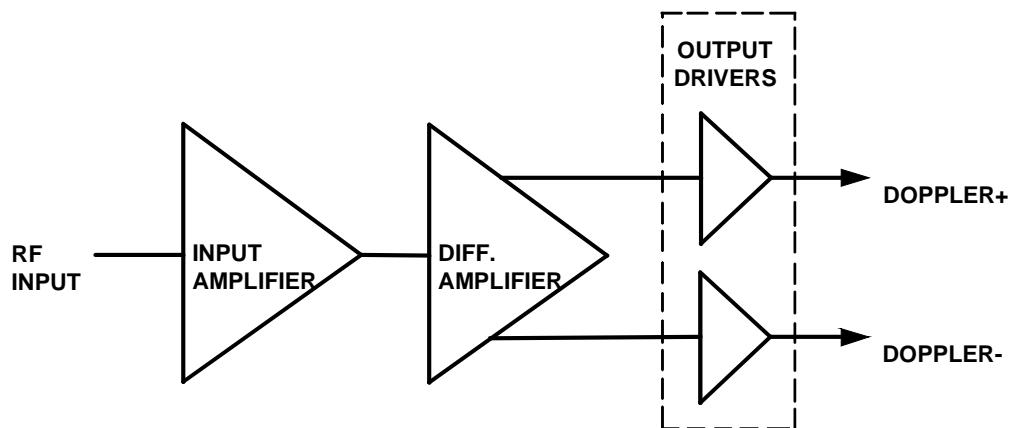

Figure 1-4. Doppler Amplifier Module Simplified Block Diagram
1.19.3 Doppler Amplifier. For the following description, refer to Figure 1-4. The Doppler amplifier consists of an amplifier with a bandwidth of 3-140 kHz. The input of the Doppler amplifier is the RF system output, which is filtered, amplified, shaped, and transmitted through a differential line driver to the muzzle velocity processor.